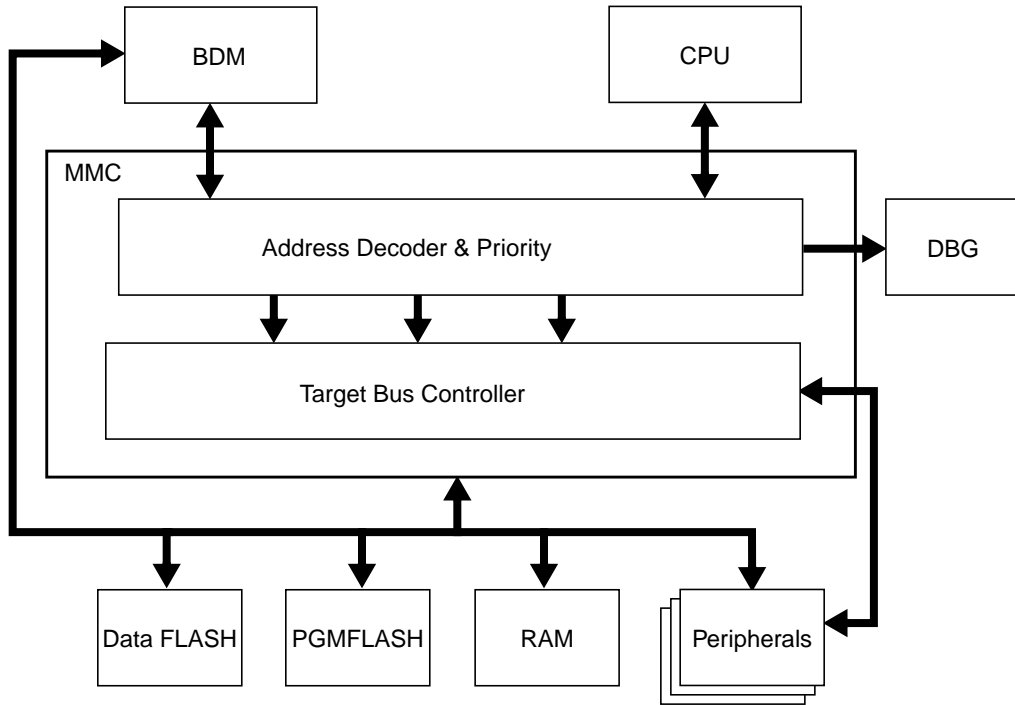

Figure 3-1. MMC Block Diagram
This section describes the functionality of the module mapping control (MMC) sub-block of the S12X platform. The block diagram of the MMC is shown in Figure 3-1.
- Simultaneous accesses to different resources¹ (internal, and peripherals) (see Figure 3-1)
Figure 3-1 shows a block diagram of the MMC.